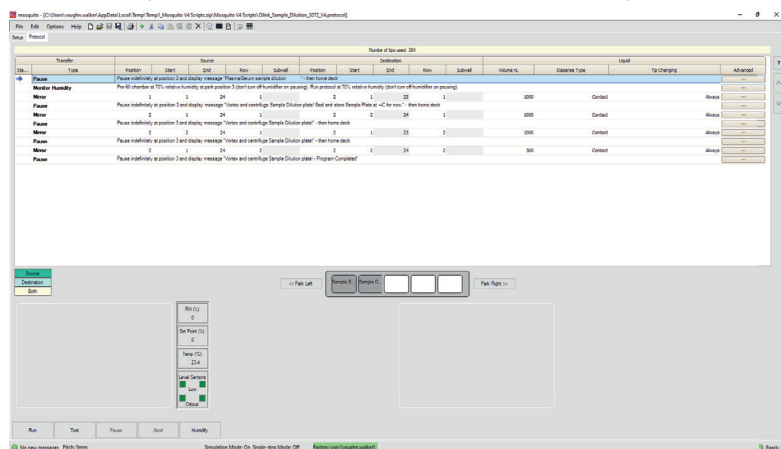

Figure 24. Pop-up window during Mosquito dilution protocol.
7. When the Mosquito® protocol is paused and a pop-up window appears on the screen (*Figure 24*), remove the Sample Source Plate and the Sample Dilution Plate from the Mosquito® deck and from the magnetic clamp boosters.